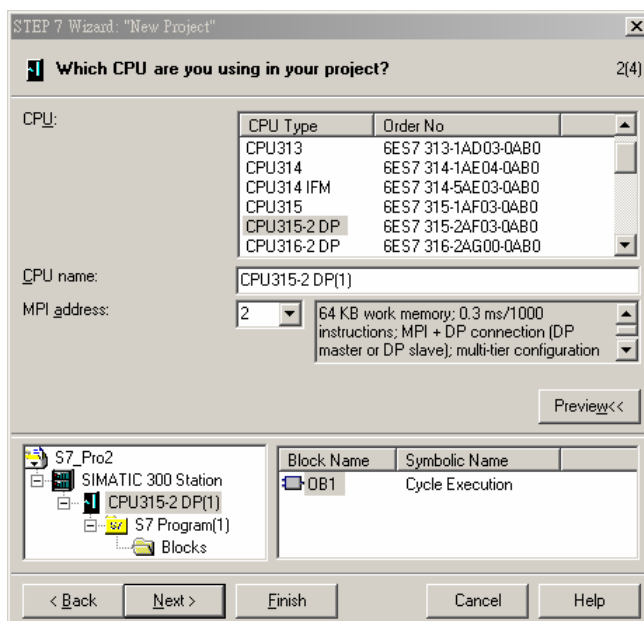

Figure 10-5
4. Select a CPU type for the S7-300 model we are using and click "Next", as Figure 10-5.